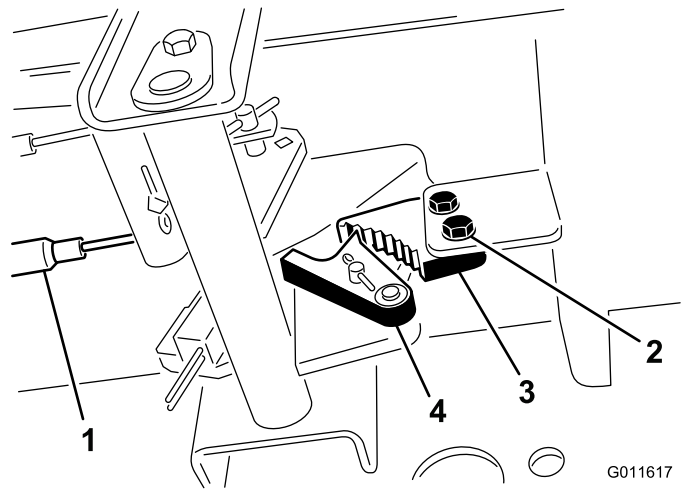

Figure 42
1. Loosen the 2 screws securing the parking-brake pawl to the frame (Figure 42).
2. Press the parking brake pedal forward until the brake detent completely engages on the brake pawl (Figure 42).